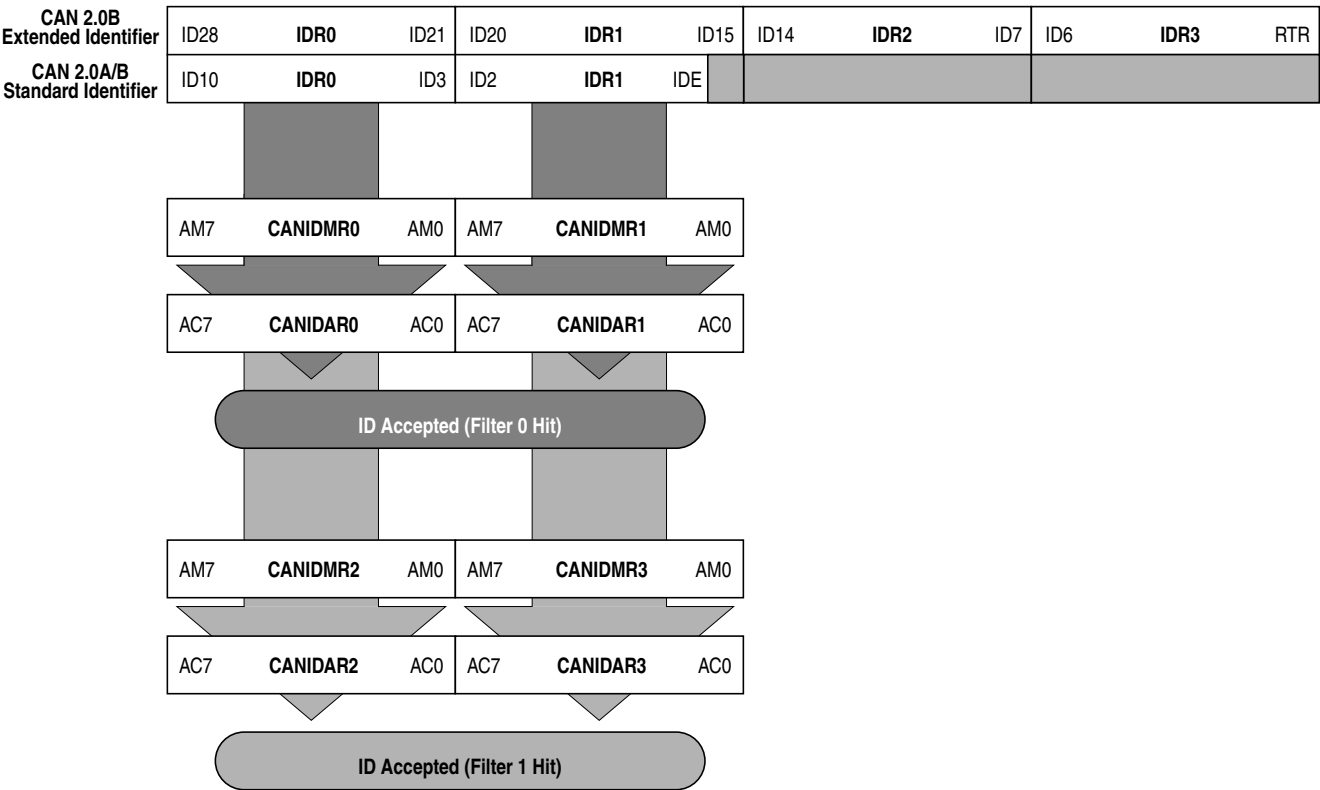

Figure 10-40. 16-bit Maskable Identifier Acceptance Filters
- Figure 10-40 shows how the first 32-bit filter bank (CANIDAR0–CANIDA3, CANIDMR0–3CANIDMR) produces filter 0 and 1 hits. Similarly, the second filter bank (CANIDAR4–CANIDAR7, CANIDMR4–CANIDMR7) produces filter 2 and 3 hits.